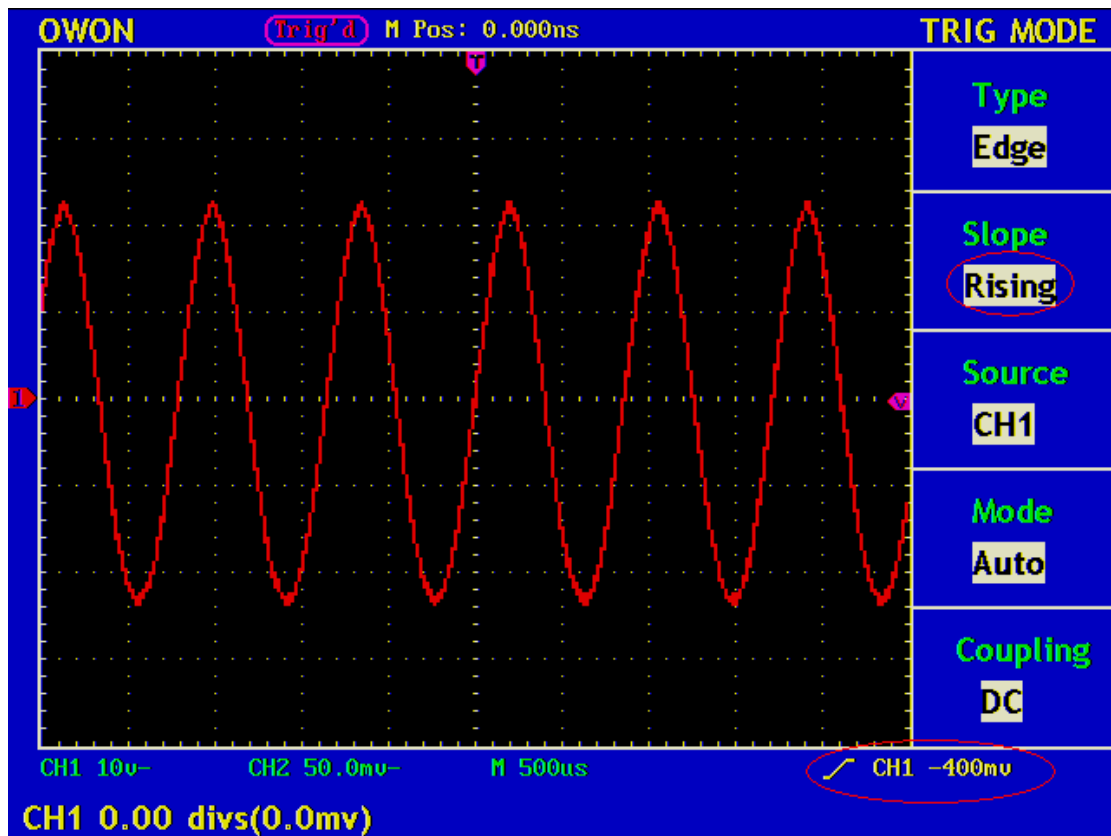

Fig. 28 Wave Form Triggered on the Rising Edge
6. Press the **F5** menu selection button and choose AC for Coupling. The display in the screen is as Fig. 28.